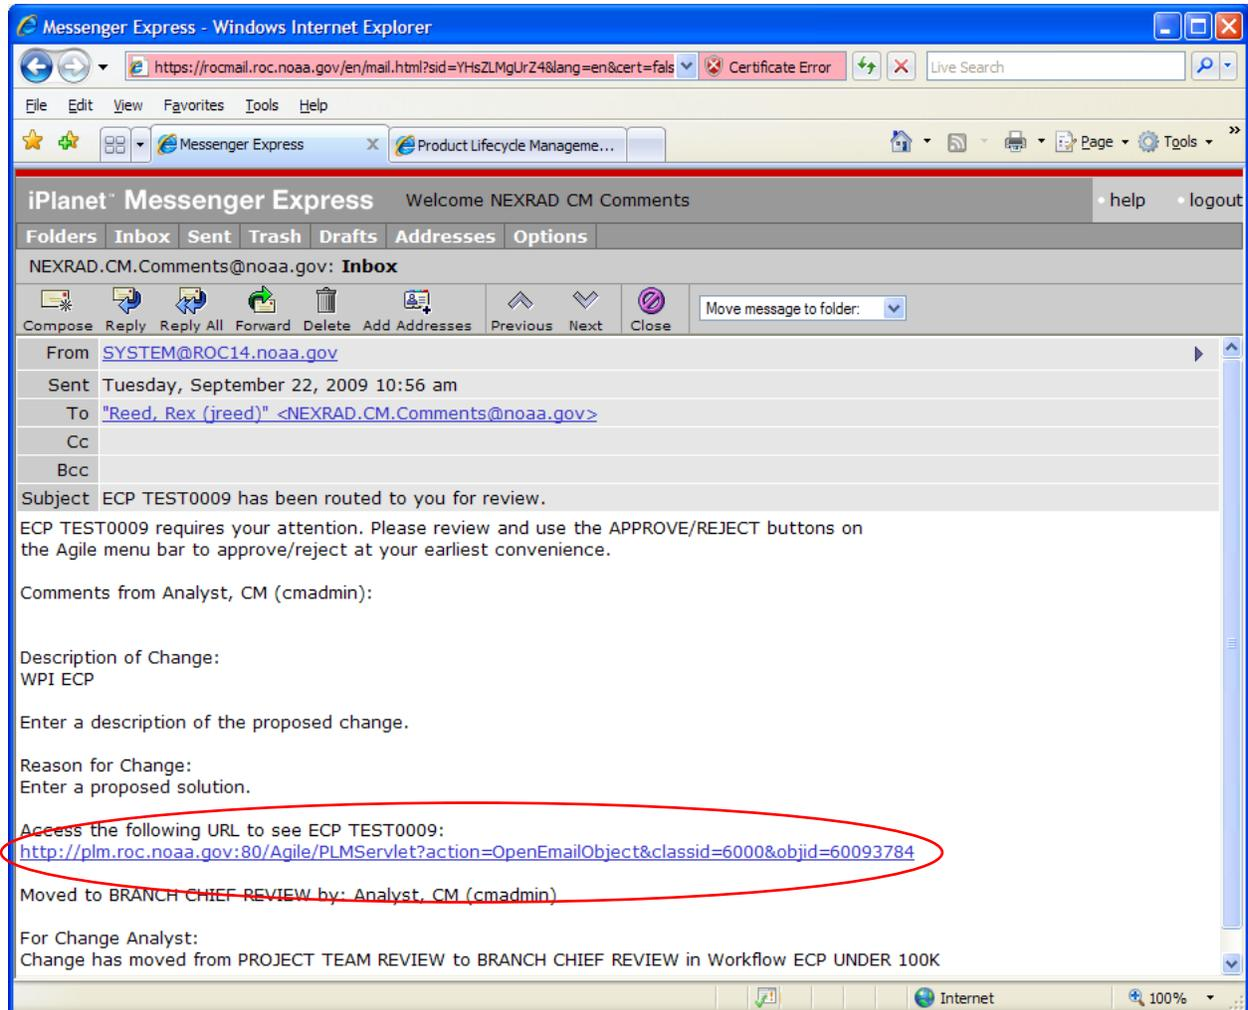

**Figure 29: ECP advanced to Branch Chief Review status.**
7. When all team members provide their approvals, the ECP will automatically move forward to **Branch Chief Review** status (Figure 29).